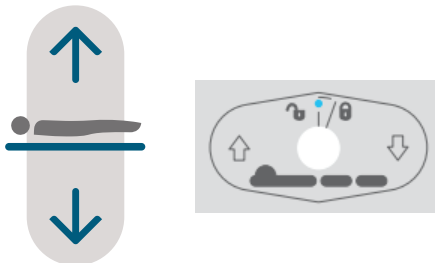

Figure 77
4. Adjust the bed to a comfortable working height. See Figure 77.